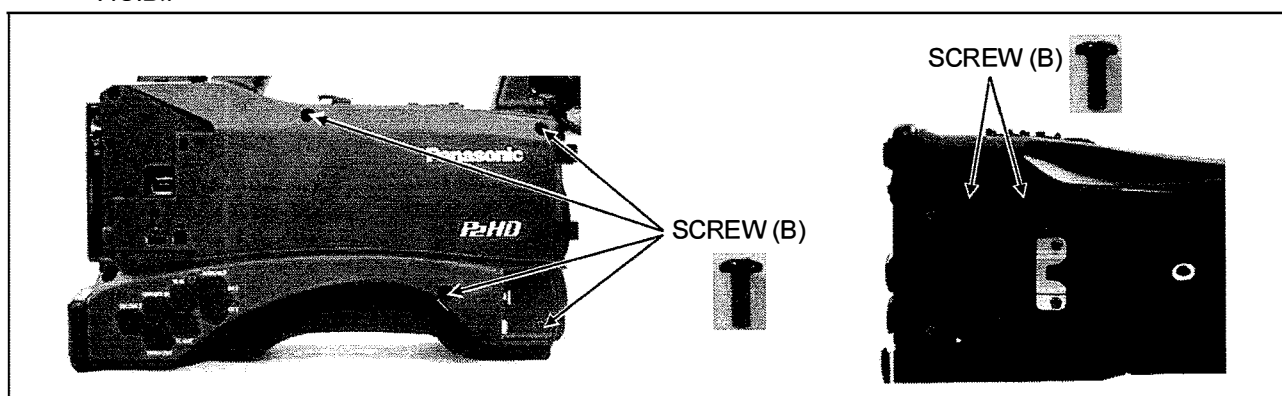

Figure 2-2
2. Unscrew the 6 screws (B) as shown in figure 2-2 and open the SIDE CASE L Unit.